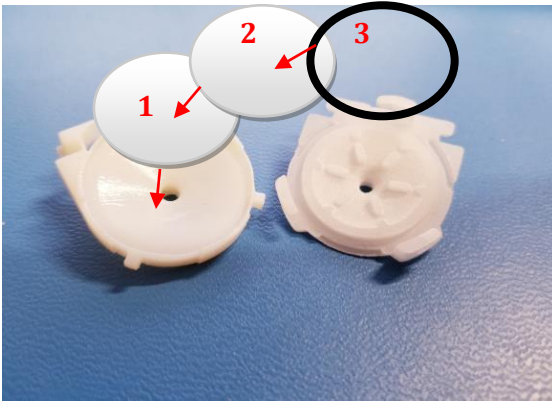

Figure 12. Protection Filter and Sample Analysis Filter:
2. If gravimetric or sampling analysis is desired, use tweezers to place the sampling filter first. See **Figure 12**. If a sampling filter is not needed, skip this step and proceed to the next step.